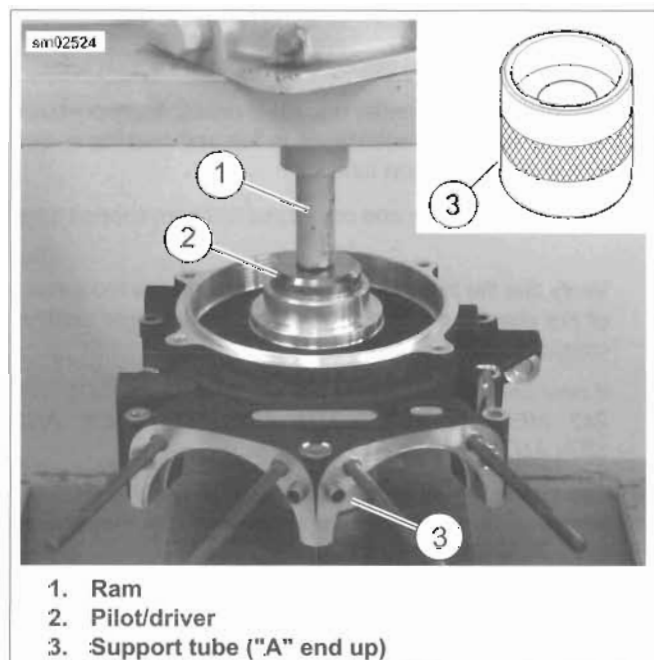

Figure 3-136. Left Main Bearing Removal
8. See Figure 3-136. Place support tube (3) on press table with "A" end up. Note that support tube is stamped "A" and "B" to provide proper orientation.
10. Slide pilot/driver (2) through the main bearing into support tube (3).
11. Center pilot/driver under ram (1) of press. Apply pressure to pilot/driver until bearing is free.